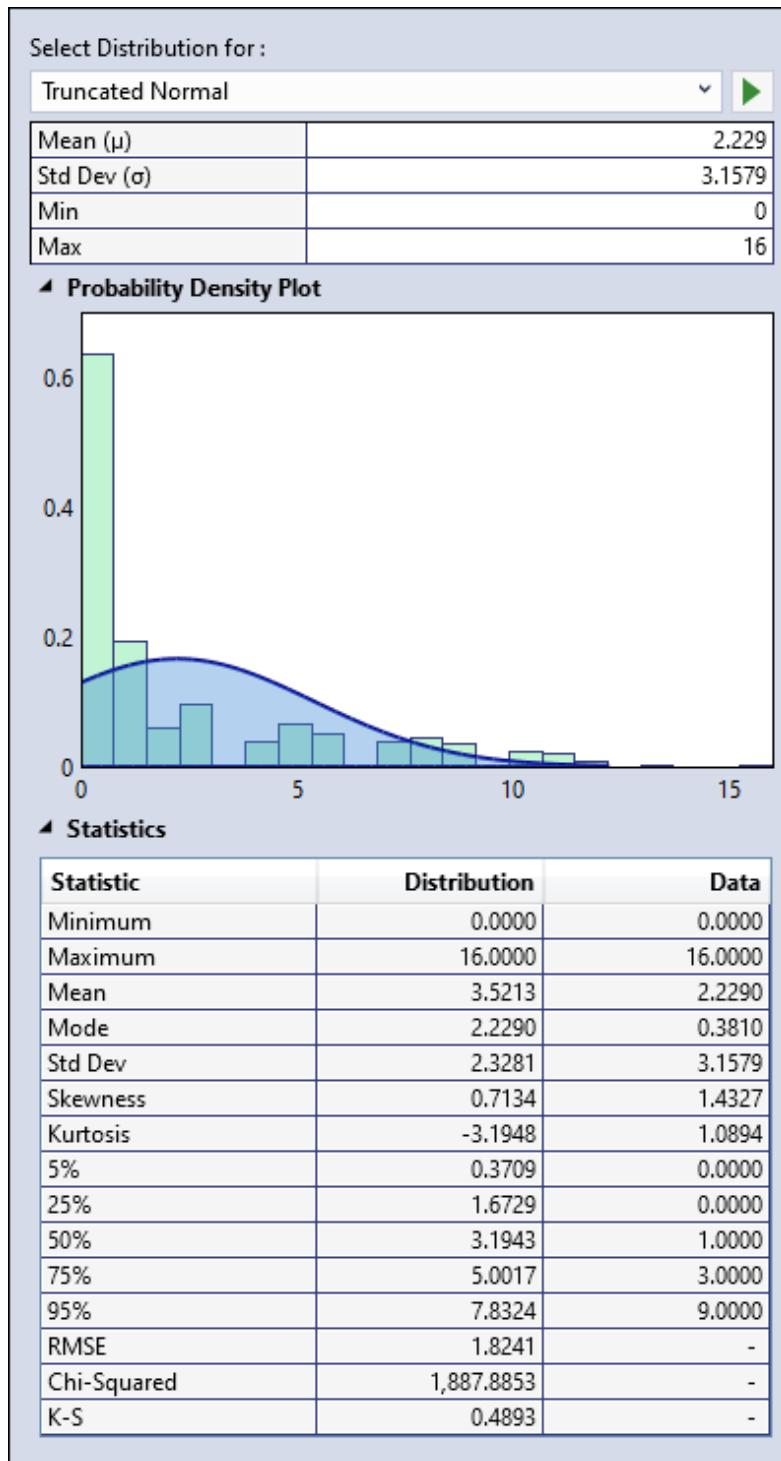

Figure 9.4: LifeSim result distribution selector control.
3. Once you select a LifeSim simulation result, multiple distributions auto-fit to the data and a truncated normal distribution represents potential consequences with uncertainty at the specified hazard level. To view, change, or edit the selected distribution click the button in the distribution column cell. A popup (Figure 9.4) shows the selected distribution, the distribution's PDF, and a histogram of the LifeSim results data for a visual comparison of the distribution fit. Summary statistics are provided for both the selected distribution and the LifeSim results data, including goodness of fit tests for the distribution and the data.